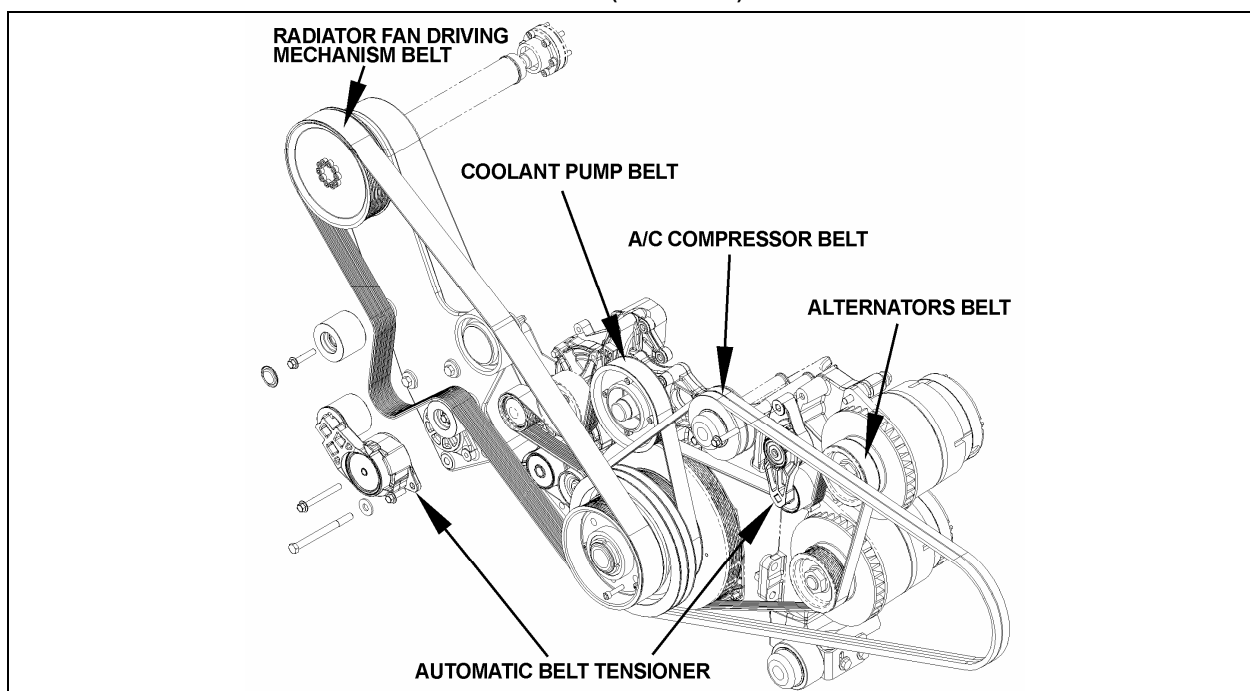

FIGURE 22: TWIN BOSCH ALTERNATORS INSTALLATION (VOLVO D13)
4. Install the alternators belt, the coolant pump belt, the A/C compressor belt and then the radiator fan driving mechanism belt (figure 22).
2. Insert a $\frac{3}{4}$ " socket drive into the automatic belt tensioner opening (Fig. 22).